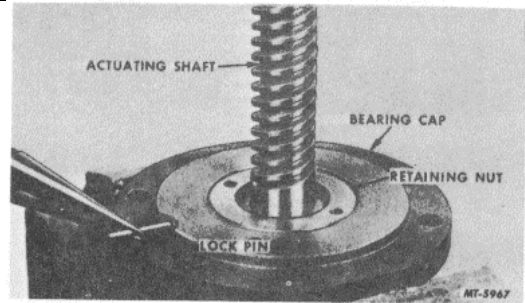

Fig. 15
12. Remove lock pin from the bearing retaining nut, Fig. 15.